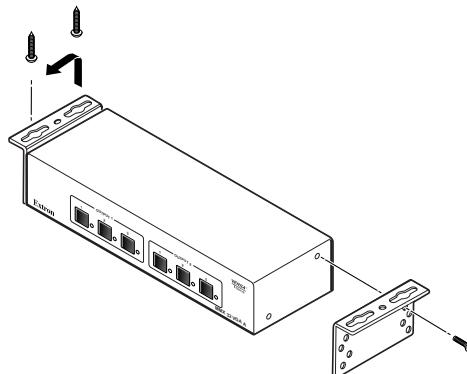

Figure 2-3 — Mounting the MMX 32 VGA A under furniture
2. Attach the furniture mounting brackets to the switcher with the provided machine screws (figure 2-3).
6. Align the mounting screws with the slots in the brackets and place the switcher against the surface, with the screws through the bracket slots. See figure 2-3.